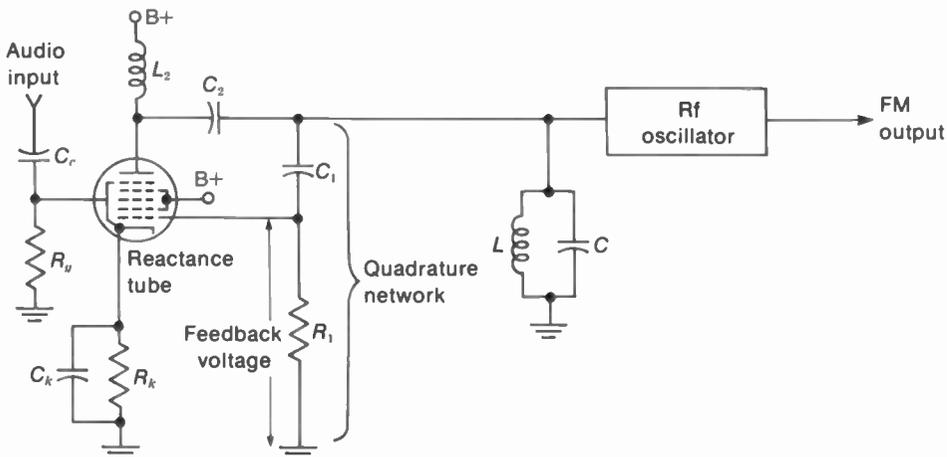

FIGURE 27-5 REACTANCE TUBE FOR PRODUCING FM. ITS PLATE-CATHODE CIRCUIT IS ACROSS THE LC TUNED CIRCUIT OF THE OSCILLATOR.
The circuit in Fig. 27-5 illustrates how a reactance tube can be used to produce FM directly by varying the frequency of the oscillator stage. The oscillator has a tuned LC circuit without crystal control. Then the plate-cathode circuit of the reactance tube can be in parallel with the resonant LC circuit. As the reactance of the plate-cathode circuit is varied, the oscillator frequency changes.
**Circuit arrangement.** The tube shown in Fig. 27-5 is convenient because it has two control grids. Grid 3 is used for audio modulating voltage, while grid 1 has the required quadrature feedback voltage. In the plate circuit,  $L_2$  is an rf choke to prevent the rf signal from shorting to ground, while  $C_2$  is a dc blocking capacitor for the B+ voltage. Cathode bias is provided by  $R_k$  and  $C_k$ . The  $R_g C_g$  coupling circuit feeds in the audio modulating voltage.